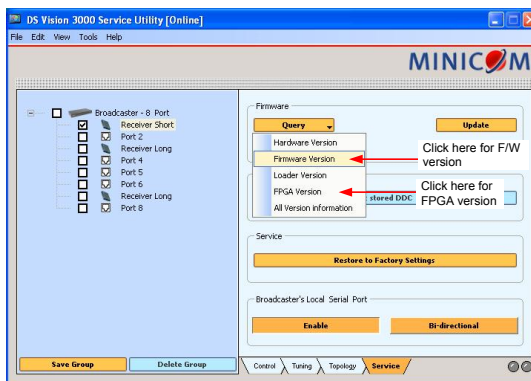
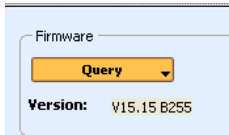

Figure 43 Query button
Figure 44 Version line
3. Go to the Service window and check the current Firmware and FPGA versions of all units by clicking the Query button and selecting Firmware or FPGA, see Figure 43. The version appears in the Version line, see Figure 44.